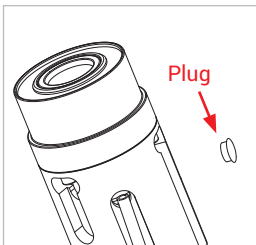

Figure 8
- ▶ Remove the two plugs with a flat slotted screwdriver (Figure 8). This clears the three 'drain holes' for purging.